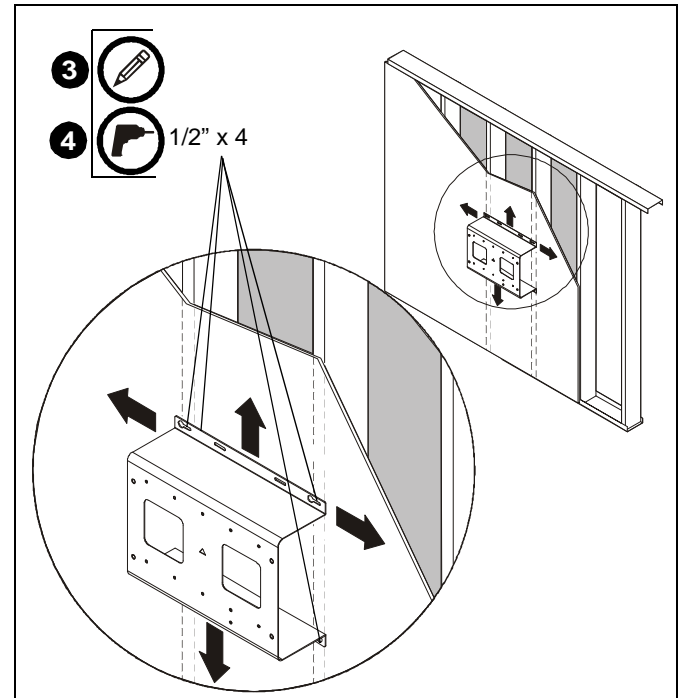

Figure 3
3. Using a level, mark the wall on each stud above existing whiteboard through four mounting slots in the WBAP bracket (A) mounting slots. (See Figure 3)
4. Drill four 1/2" holes at markings. (See Figure 3)